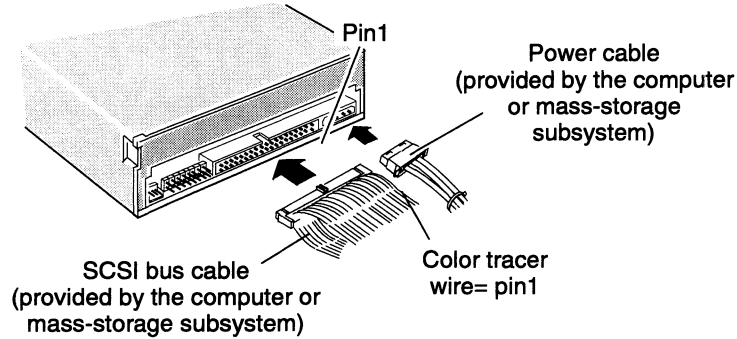

Figure 5 Connecting cables to the CD-ROM drive
4. Plug the SCSI bus cable provided by the computer or mass-storage subsystem into the SCSI bus connector on the back of the drive. (Figure 5). Make sure the color tracer wire on the SCSI bus cable connects to pin 1 in the SCSI connector on the drive (Figure 5).
5. Connect the power cable to the power connector on the drive (Figure 5).